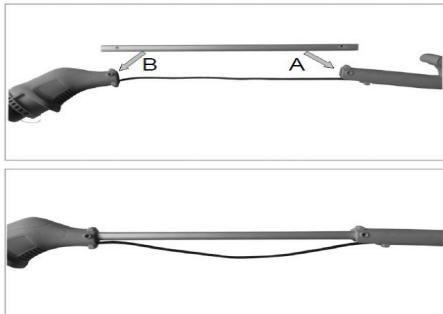

Fig 1
- Attach the bottom and top sections of string trimmer to the connection tube. (**Fig 1**)